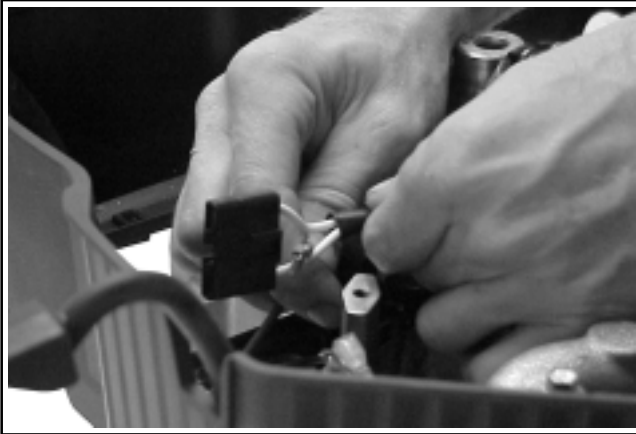

Figure 9-40. Removing B+ Charging Lead from Connector.
3. Unplug the connector from the rectifier-regulator. Using a small screwdriver or other narrow flat blade, bend down the locking tang on the center terminal and pull the B+ charging lead out of the connector. See Figure 9-40.